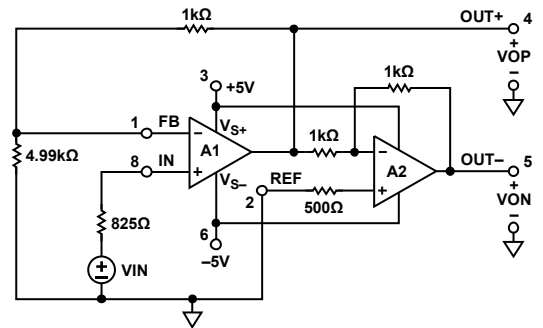
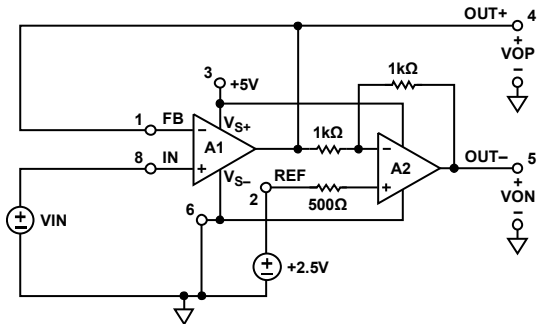
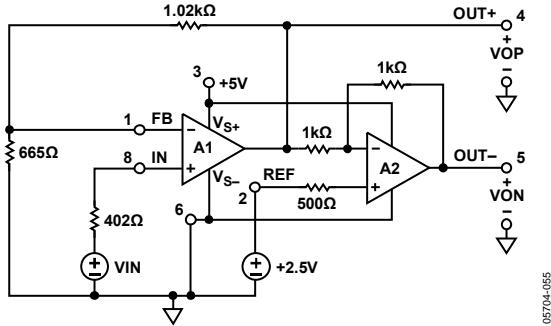

Figure 49. Dual Supply, G = 2.4, Single-Ended-to-Differential Amplifier
Figure 50. Single +5V Supply, G=2 Single-Ended-to-Differential Amplifier
Figure 51. 5 V Supply, G = 5, Single-Ended-to-Differential Amplifier
Figure 49 shows an example of a dual-supply connection. In this example, VG and VREF are set to 0 V, and the external RF and RG network provides a noninverting gain of 1.2 in A1. This example takes full advantage of the rail-to-rail output stage. The gain equation is
Figure 50 shows a single 5 V supply connection with A1 used as a unity gain follower. The 2.5 V at the REF pin sets the output common-mode voltage to 2.5 V. The transfer function is then
In this case, the linear output voltage is limited by A1. On the low end, the output of A1 starts to saturate and show degraded linearity when VOP approaches 200 mV. On the high end, the input of A1 becomes saturated and exhibits degraded linearity when VIN moves beyond 4 V (within 1 V of VCC). This limits the linear differential output voltage in the circuit shown in Figure 50 to about 7.6 V p-p.
Figure 51 shows a single 5 V supply connection for G = 5. The  $R_F$  and  $R_G$  network sets the gain of A1 to 2.5, and the 2.5 V at the REF input provides a centered 2.5 V output common-mode voltage. The transfer function is then
The output range limits of A1 and A2 limit the differential output voltage of the circuit shown in Figure 51 to approximately 8.4 V p-p.
Table 7, Table 8, and Table 9 show typical error budgets for the circuits shown in Figure 49, Figure 50, and Figure 51.
**Table 7. Output Voltage Error Budget for G = 2.4 Amplifier Shown in Figure 49**
**Table 8. Output Voltage Error Budget for Amplifier Shown in Figure 50**
**Table 9. Output Voltage Error Budget for G = 5 Amplifier Shown in Figure 51**
Table 10, Table 11, and Table 12 show the noise contributions and output voltage noise for the circuits in Figure 49, Figure 50, and Figure 51.
Table 10. Output Voltage Noise, G = 2.4 Differential Amplifier Shown in Figure 49
Table 11. Output Voltage Noise, G = 2 Differential Amplifier Shown in Figure 50